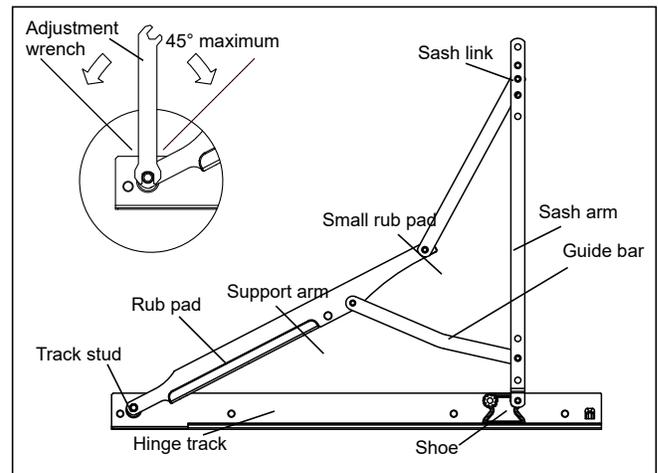

Figure 6
1. To adjust the hinge without detaching the support arms it is necessary to use a hinge adjustment wrench as found in the Marvin Parts Manual. See figure 6.